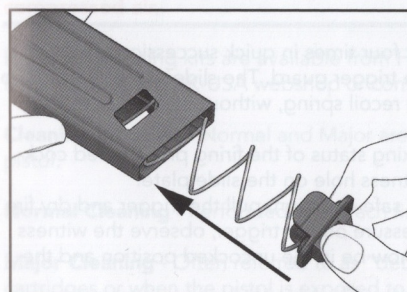

Figure 29
2. Insert the follower and magazine spring into the magazine housing as depicted in Figure 29.